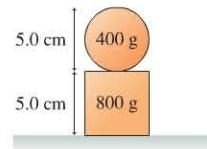

FIGURE P7.18
18. A solid cylinder sits on top of a solid cube as shown in Figure P7.18. How far above the table's surface is the center of gravity of the combined object?